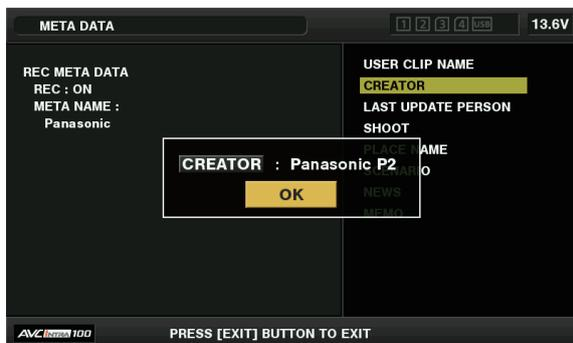

Fig. 1
**2** Use the cursor buttons to move the cursor over the item to be checked, and press the <SET> button. (Fig. 1)